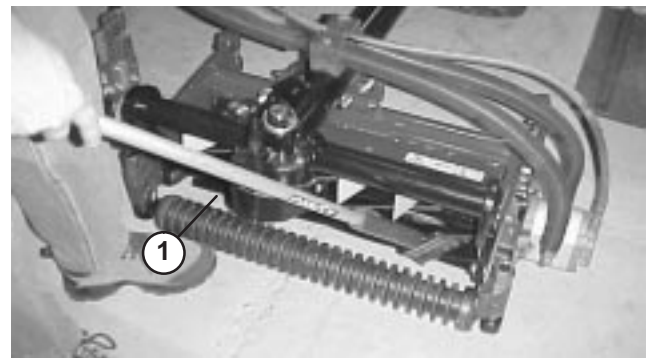

Figure 73
8. Apply lapping compound with a long handle brush (Toro Part No. 29-9100). Never use a short handled brush (Fig. 73).